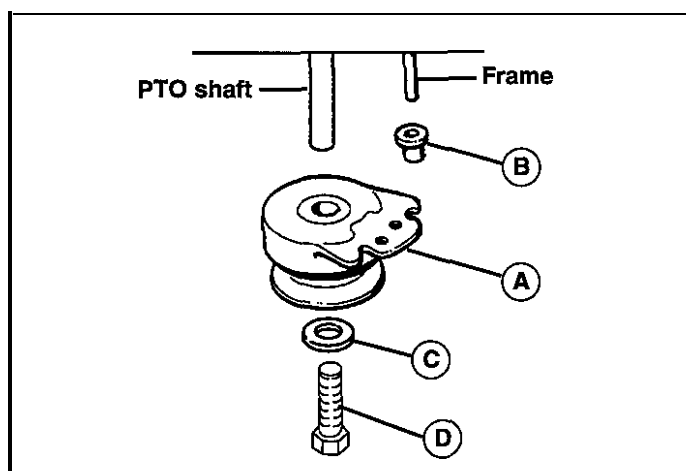

Figure 28. PTO (Electric Clutch) Assembly
3. Unplug the wiring harness from the PTO. Remove the PTO as shown in figure 28.